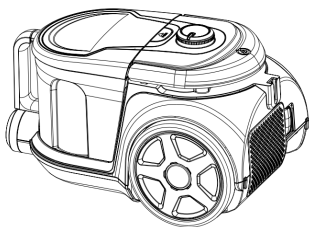

Fig.14
- 1) As in fig.14, press the outlet lock to open the outlet board.